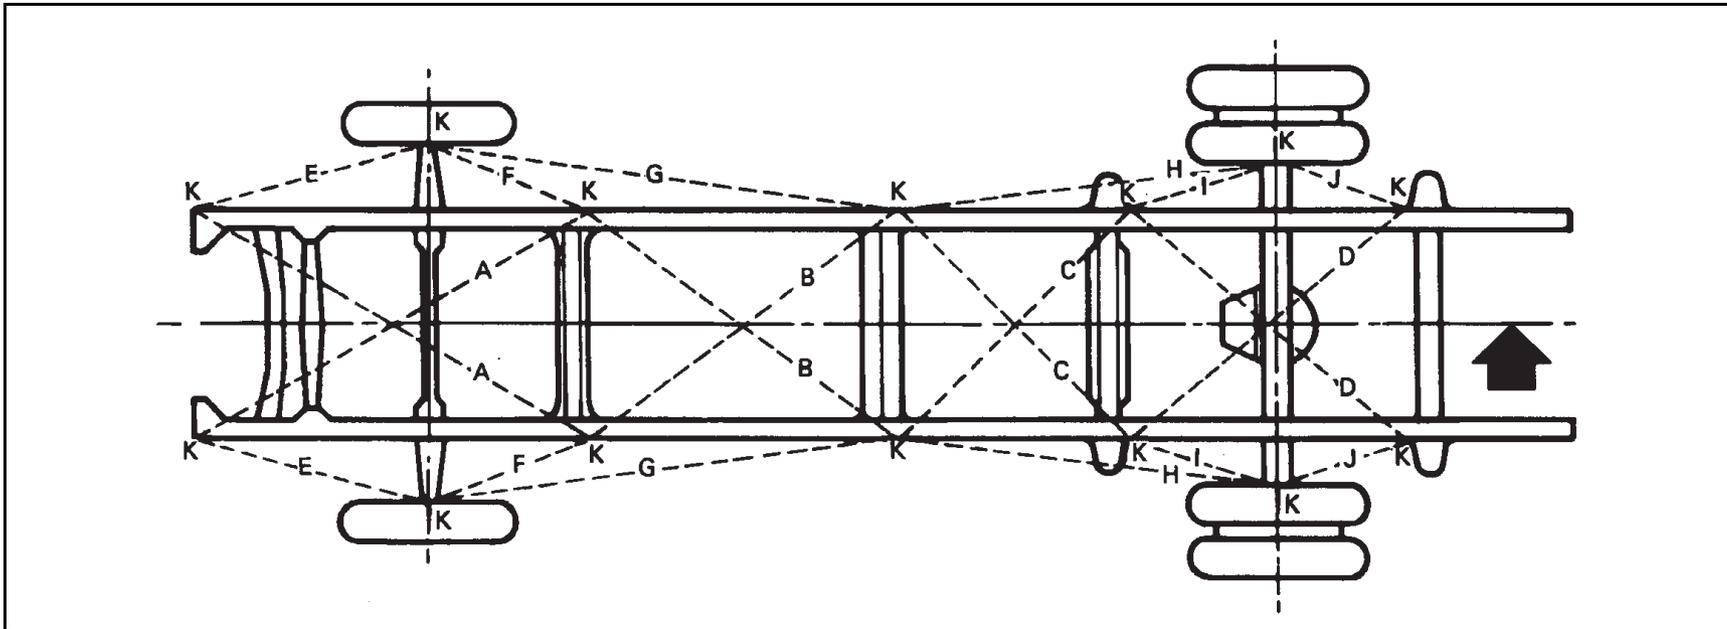

Figure 2.2 Centerline of Chassis
2. Tack or tape pieces of paper to the floor directly under each point of measurement on the chassis as indicated by the letter "K" in Figure 2.2.